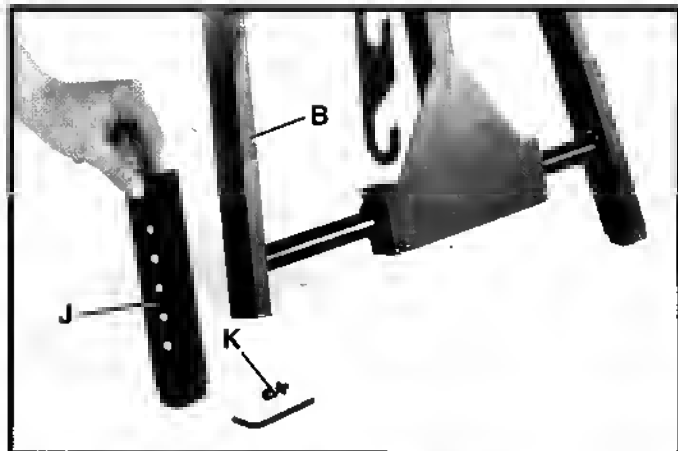

Fig. 12
4. Remove screw (K) Fig. 12, which secures one rear leg extension (J) onto stand (B) as shown.
8. If a higher working height is desired, leg extensions (J) Fig. 12, can be adjusted to raise the working height a maximum of 3 inches in 1 inch increments. To increase the working height, reposition screw (K) Fig. 15, to the holes shown or through one of the holes marked (S).